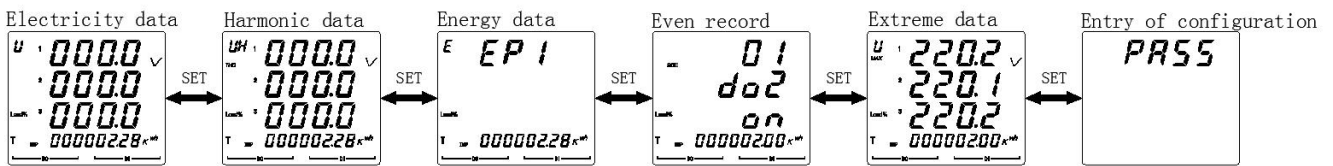

Figure 16
5.2.3 The steps for viewing various types of power parameters of the DEMP-AC3-DXX-E are shown in Figure 16,17.